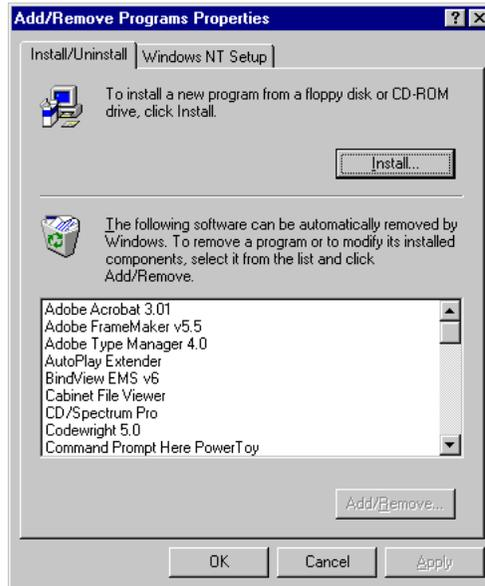

Fig. 373 Add/Remove Programs Dialog
- 2 Double-click the **Add/Remove Programs** icon, as shown in Fig. 373.